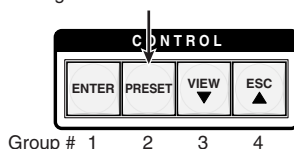

Figure 3-32 — Select an I/O group
5. Press and release the Preset button to select group 2 (figure 3-32).